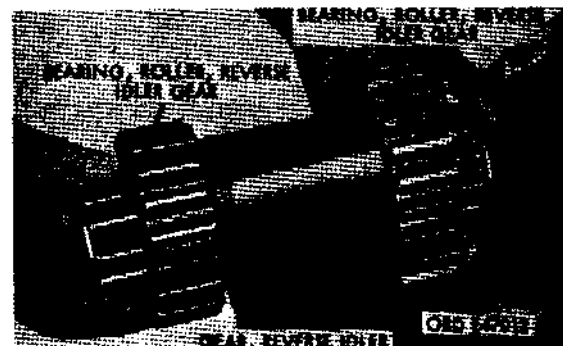

Figure 256. Removing reverse idler gear assembly
- (c) Pull reverse idler gear, shaft from transmission case and lift out reverse idler gear (fig. 256) and reverse idler gear bearings.